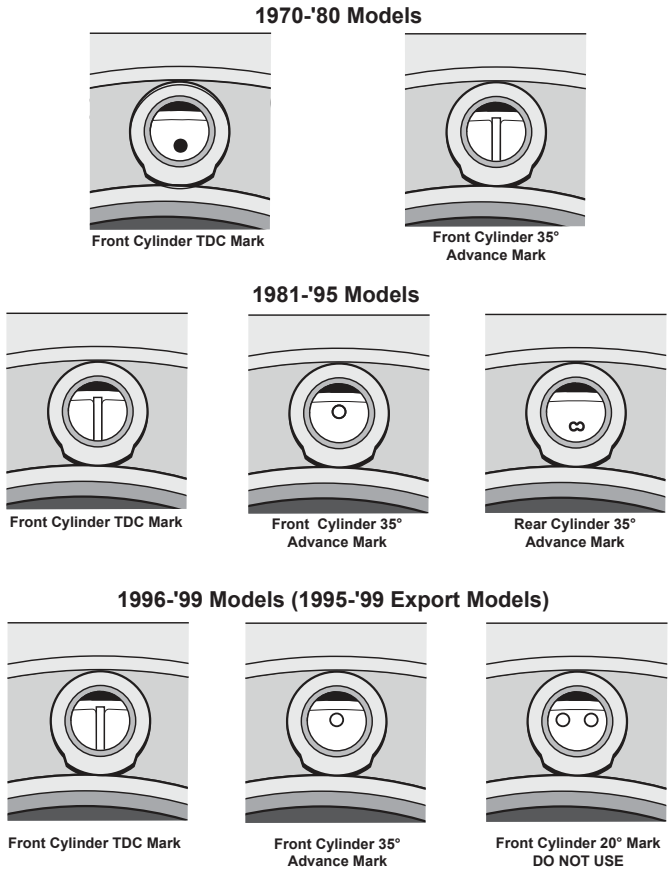

Figure 8
The TDC and advance timing marks are located on the flywheel and can be observed through the timing inspection hole (refer to shop manual for details). Refer to **Figure 8** for typical timing marks on stock
NOTE: 1996 and later models (1995 and later for export models) have a timing mark at 20° BTDC for setting the timing with the OE ignition module. Do not use this mark for setting the timing on the HI-4N. In most cases an additional mark will remain at 35° BTDC (see Figure 8). Use this mark to set the timing with a timing light as described below. If unsure of which timing marks to use, remove spark plugs, turn engine while observing the marks that appear in the timing inspection hole. See Figure 10. As the front cylinder approaches TDC, the first mark to appear will be the front cylinder advance mark. Next you may be able to see the crankpin nut relief. the next mark to appear will be the TDC mark for the front cylinder.
Verify that the front cylinder is on compression stroke by observing the position of the timing cup. See **Picture 1** for big twin or **Picture 2** for Sportster® models. Refer to **Figure 8** or **9** and find the diagram with a matching TDC mark. Use the corresponding advance mark shown in the diagram for setting timing as described in the dynamic timing procedure (setting timing using a timing light).
- 2) Rotate the engine until the TDC (Top Dead Center) timing mark is centered in the inspection hole (See **Figures 8 and 9** for timing marks or refer to your factory service manual).